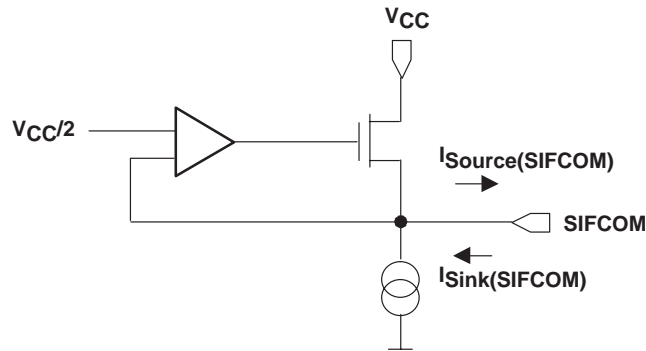

Figure 20. P6.x/SIFCHx timing, SIFCHx function selected
2. The sink and source currents are a function of the voltage at the pin SIFCOM. The maximum currents are reached if SIFCOM is shorted to GND or VCC. Due to the topology of the output section (refer to Figure 20) the VCC/2 generator can source relatively large currents but can sink only small currents.